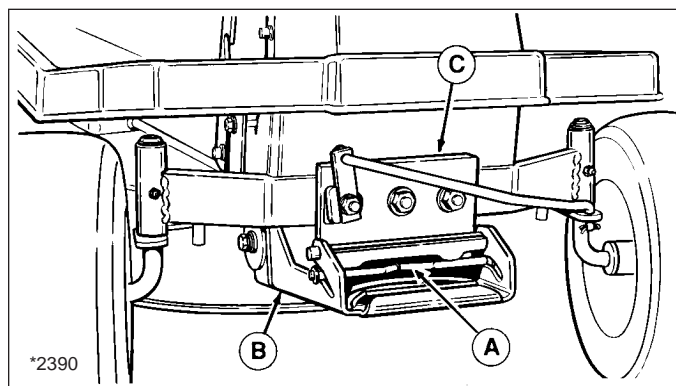

Figure 8. Mower Hitch
5. Remove mower hitch (B, Figure 8) from rider hitch brackets (C) by pulling spring-loaded lever (A) forward and lifting up on hitch. Place mower hitch on ground.